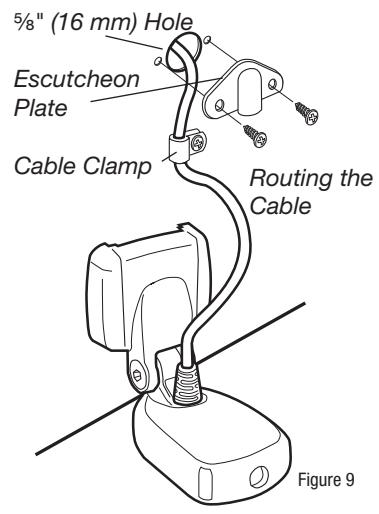

Figure 9
1. If you choose to pass the cable through the transom of the boat, a $\frac{5}{8}$ " (16 mm) hole must be drilled above the waterline. Fill this hole with marine-grade silicone sealant, and use the supplied escutcheon plate to dress the entry hole. This will require two #8 x $\frac{5}{8}$ " (16 mm) screws provided and drilled holes of $\frac{3}{16}$ " (3.5 mm). (See Figure 9.)